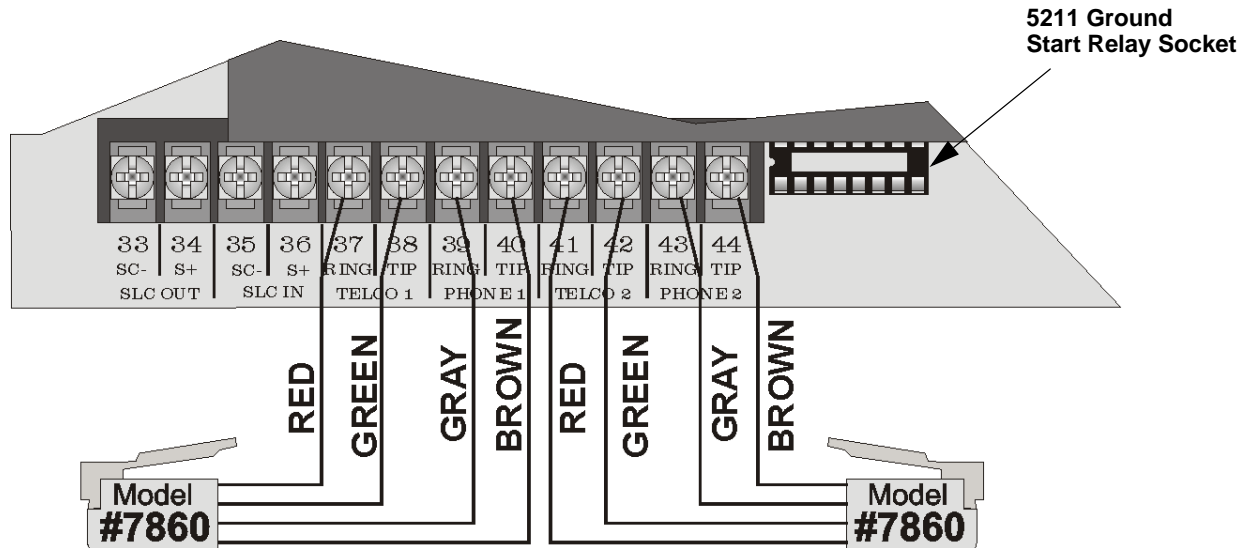

Figure 4-29 Connection of Telephone Lines
Connect the telephone lines as shown in Figure 4-29. The Model 7860 phone cord is available from Silent Knight for this purpose.
1. Install the 5211 on the ground relay socket as shown in Figure 4-29.